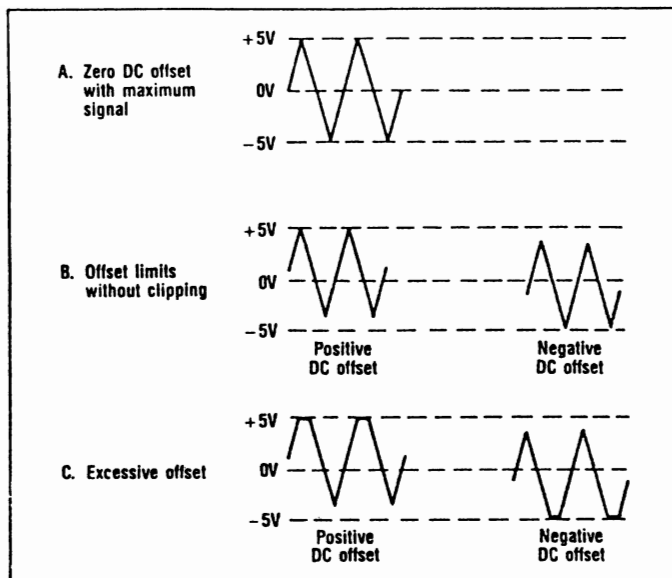

Fig. 2. Use of DC OFF Control.
- g. Remember that the output signal swing of the generator is limited to ± 10 volts open circuited or ± 5 volts into 50 ohm. This applies to the combined signal and DC offset. Clipping occurs slightly above these levels. Fig. 2, illustrates the various operating conditions encountered when using the DC offset. If the desired output signal is large or a large DC offset is required, an oscilloscope should be used to make sure that the desired combination is obtained without undesirable clipping.